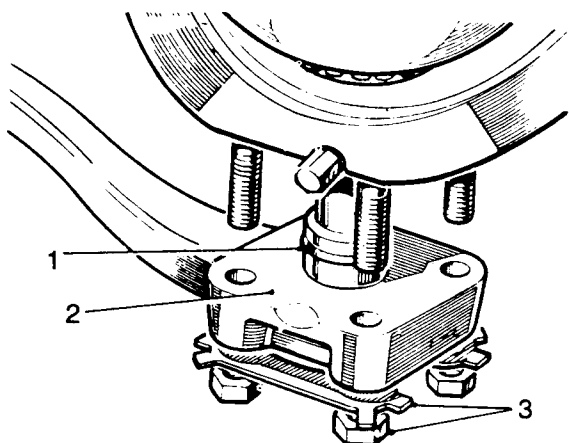

Fig J1.53
- (4) Refer to Fig J1.53. Fit a rubber O-ring (1) to the steering lever and swivel pin assembly.
- (5) Smear the mating surfaces of the swivel pin and housing with jointing compound.
- (6) Fit the steering lever (2) using new replacement nuts, ensuring that it faces forward (away from the oil filler/level plug).
- (7) Secure the fixings (3), torque load 70 N.m and engage the lock plates.
- (8) Fit the swivel pin and bracket assembly to the top of the swivel pin housing, fitting the shims removed during the dismantling to the value of 1,0 mm.